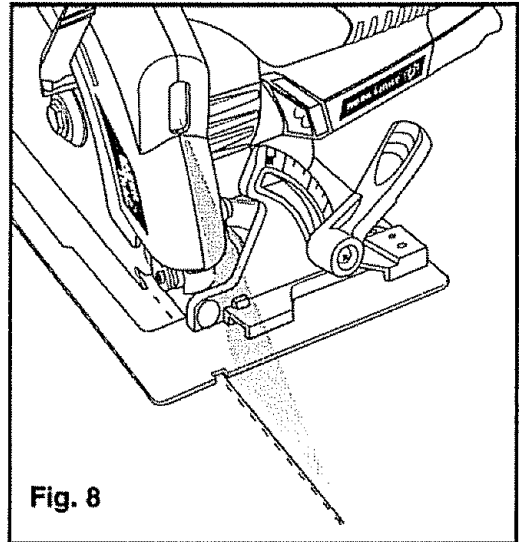

Fig. 8
USING THE LASER TRAC™ LASER LIGHT FEATURE (Fig. 8)
5. Align laser beam with line-of-cut (see Fig. 8).